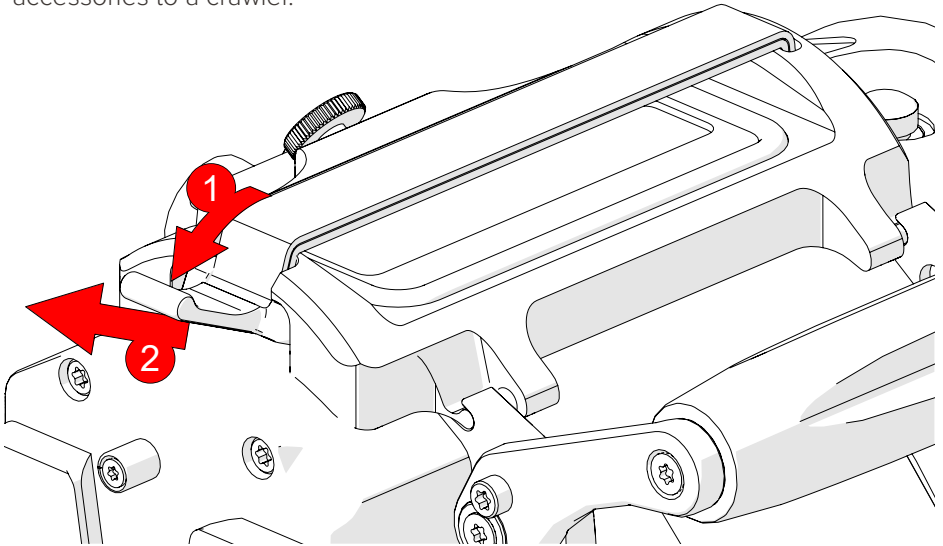

Fig. 65 - Press lever down and pull to release
1. Press the strap's lever down and then pull to release the flexible strap (Fig. 65).